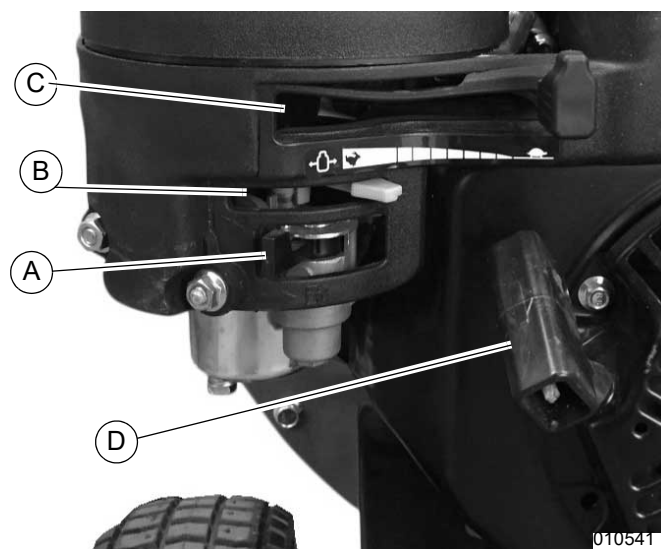

Figure 3-1. Engine Controls
2. See Figure 3-1. Set fuel shutoff valve (A) to open.
4. Set choke control lever (B) to choke. Leave in run position if engine is already warm.
5. Set throttle control lever (C) to fast position.
6. Grasp recoil starter handle (D) and slowly pull until resistance is felt, then pull cord rapidly to start engine.